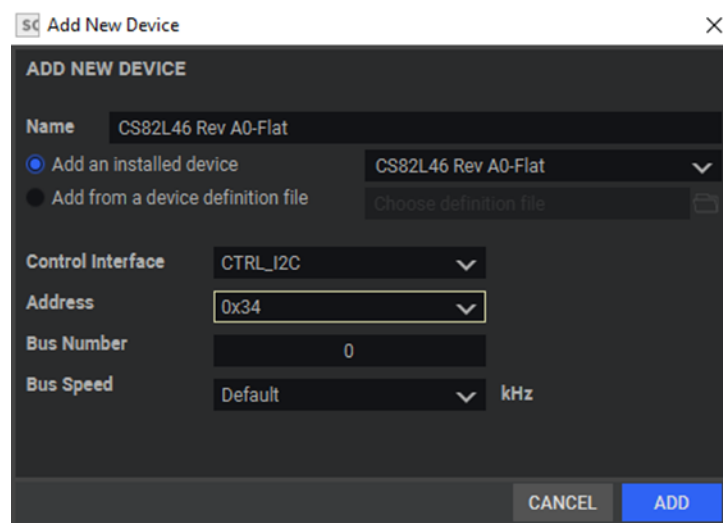

Figure 30. SoundClear Studio - Selecting Device to Add
2. Select the device, along with the required protocol and device address, see Figure 30.